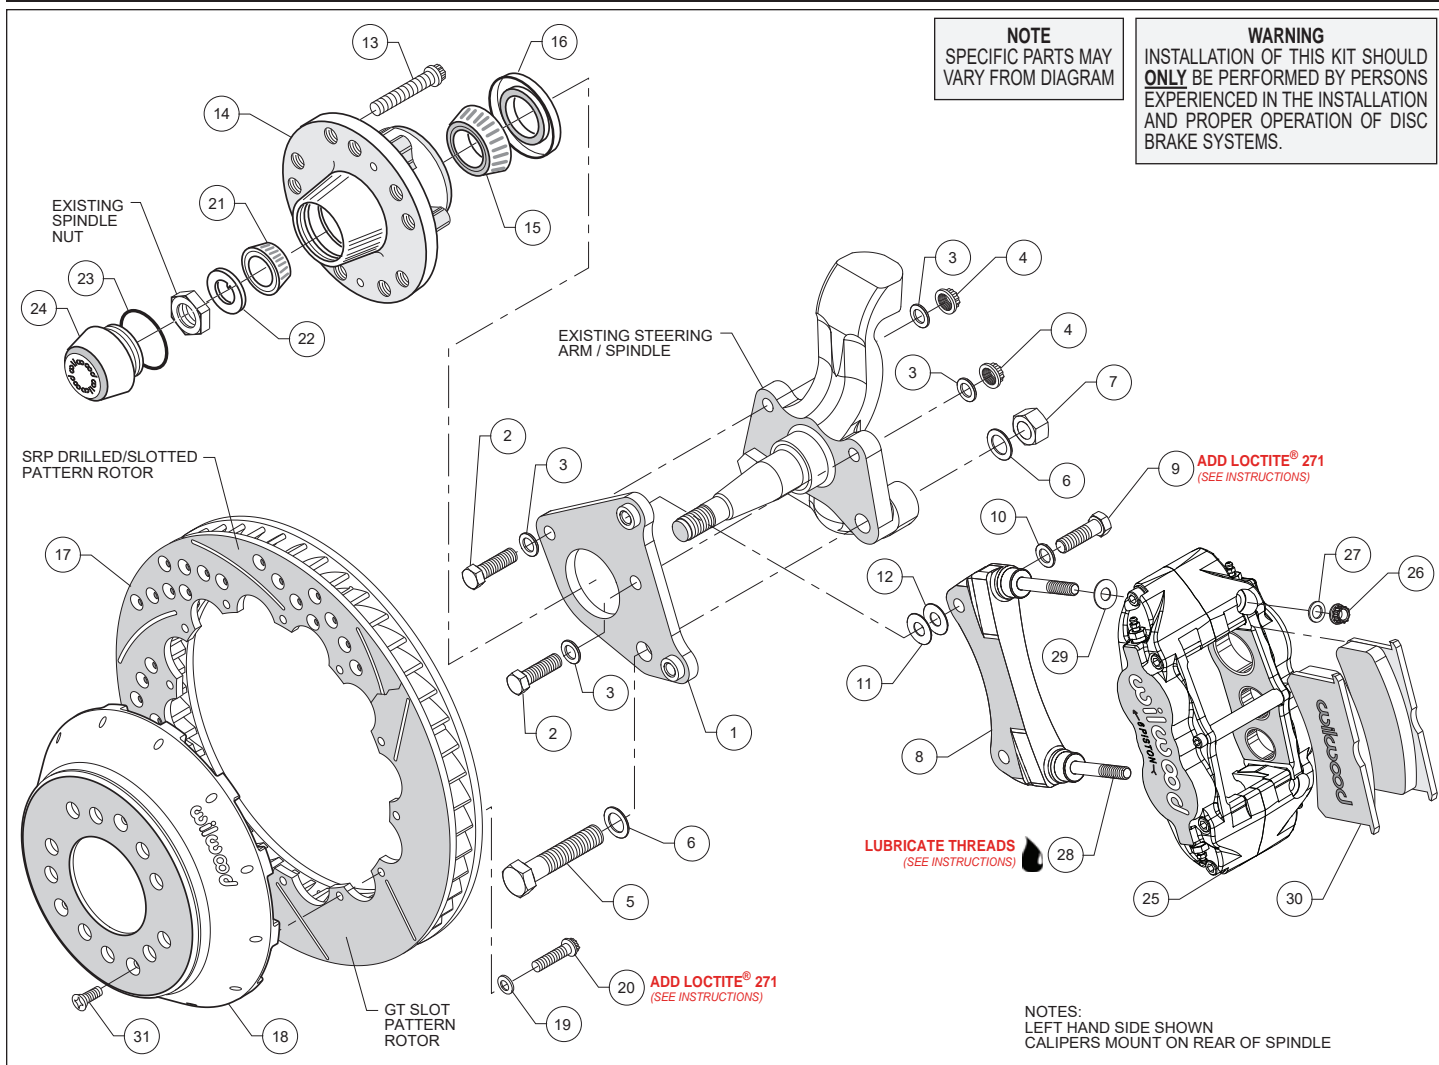
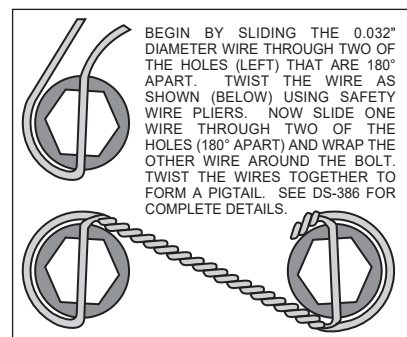

Figure 1. Typical Installation Configuration
Figure 3. Safety Wire Diagram
- Install the flat caliper bracket (1) to backing plate face of spindle using bolt (5) and washer (6) as shown in Figure 1. Install another washer (6) and lock nut (7) on the rear side. Install two bolts (2) with washer (3) through caliper bracket. Install another washer (3) and lock nut (4) on the rear side. Torque two lock nuts (4) to 47 ft-lb. Torque lock nut (7) to 140 ft-lb. **NOTE:** Be sure the heads of the caliper bracket (1) insert nuts are facing outward toward the wheel. Reference Figure 1 as necessary.
- The radial caliper mounting bracket assembly (8) should be installed first with clean, dry threads on the mounting bolts. Install the bracket on the inboard side of the flat caliper mounting bracket (1) by sliding bolt (9) through flat washer (10), through the mounting hole in the bracket (8) and into the flat bracket (1) insert nuts. Initially place two shim washers (12) between the two brackets (1 and 8) (see figure 1). The radial bracket (8) must tighten squarely against the inboard side of the flat mounting bracket (1). Later, after the caliper, pad, and rotor alignment has been checked, and any necessary shims have been put in place, the mount bolts should be coated with red *Loctite*® 271 and torqued to 47 ft-lbs.
- Install five new wheel studs (13) into the hub (14). Torque to 77 ft-lb. **NOTE:** There are two five lug patterns in the hub (5 x 4.00 and 5 x 4.50). Make sure of the correct hole pattern for the correct wheel application before installing studs into hub.
- Pack the large inner bearing cone (16) with high temperature disc brake bearing grease (available from your local auto parts store) and install into the backside of the hub (14).
- Install the grease seal (16) by pressing into the backside of the hub (14).
- With the larger I.D. side of the rotor (17) facing away from the hat (18), bolt rotor (17) to hat (18) through the backside of the rotor using washers (19) and bolts (20). Using an alternating sequence, apply red *Loctite*® 271 to the threads and torque bolts to 155 in-lb. For an added measure of security, the bolts may be safety wired using standard 0.032 inch diameter stainless steel safety wire as shown in Figure 3. Please refer to Wilwood's data sheet DS-386 (available at [www.wilwood.com/Pdf/DataSheets/ds386.pdf](http://www.wilwood.com/Pdf/DataSheets/ds386.pdf)) for complete safety wire installation instructions.
- Pack the small outer bearing cone (21) with high temperature disc brake bearing grease. Lightly coat the spindle bearing surfaces with bearing grease. Slide the hub assembly (13, 14, 15 and 16) with outer bearing cone (21) onto the spindle. Secure using spindle washer (22), existing adjusting nut and nut locking device.
- Install the dust cap (24) onto the hub (23). Friction created by the o-ring (23) on the dust cap (24) keeps it from unscrewing. The O.D. of the existing spindle washer may be larger than the I.D. of the dust cap (24) which may allow the washer to contact the dust cap (24). Use the spindle washer (22) supplied with the kit instead of the stock washer.
- **NOTE:** *This kit contains distinct right and left hand calipers that must be mounted in a specific direction, as described below.* Lubricate the caliper mounting studs (28) with lightweight oil. Initially place two .035" thick shims (29) on each stud as shown in Figure 1. Mount the caliper (25) onto the bracket (8) using lock nuts (26) and washers (27), Figure 1. Ensure that the caliper is mounted so that the largest pistons are at the rotor exit end of the caliper, in relation to the direction of rotor rotation. Temporarily tighten the lock nuts and view the rotor through the top opening of the caliper. The rotor should be centered in the caliper. If not, adjust by adding or subtracting shims (11 and/or 12) between the radial bracket and the spindle bracket. Always use the same amount of shims on each of the two mounting bolts.
- Remove the caliper center bridge pad retainer bolt, nut, and tube from the caliper. Slide the brake pads (30) into place. They should install easily without interference. Check that the outside radius of the brake pad is flush with the outside diameter of the rotor face. Add or subtract shims (29) between the caliper and radial mounting bracket to gain the proper alignment. Reinstall the center bridge pad retainer tube, bolt, and locknut. The locknut should be snug without play in the bolt or tube. Be cautious not to over tighten.
- Once all clearances have been checked, remove the wheel, caliper, hat, and rotor from the spindle and hub. Secure the radial caliper mounting bracket (8) to the flat caliper mounting bracket (1) using red *Loctite*® 271. Torque the bolts to 47 ft-lbs. Reinstall the hat and rotor assembly and again use several lug nuts to hold it in place. Reinstall the caliper, torque the caliper nuts (26) to 30 ft-lbs.
- Install three flat head socket screws (31) through the small holes in the hat (18) and torque to 85 in-lb.